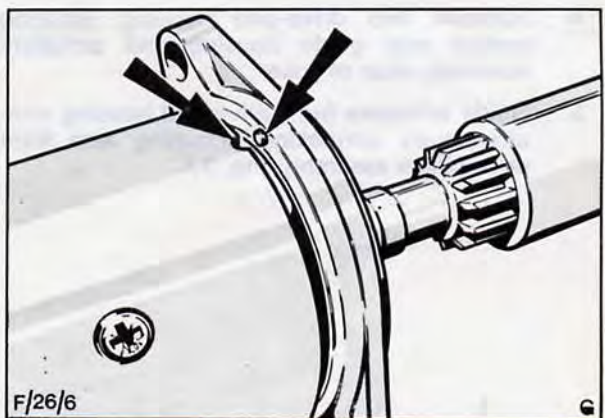

Fig. 34. Align location notches
12. Guide armature assembly through yoke so that armature shaft slides into bush in commutator end plate. Match alignment notches in yoke and drive end plate, Fig. 34. Secure end plate to yoke with two fixing screws.